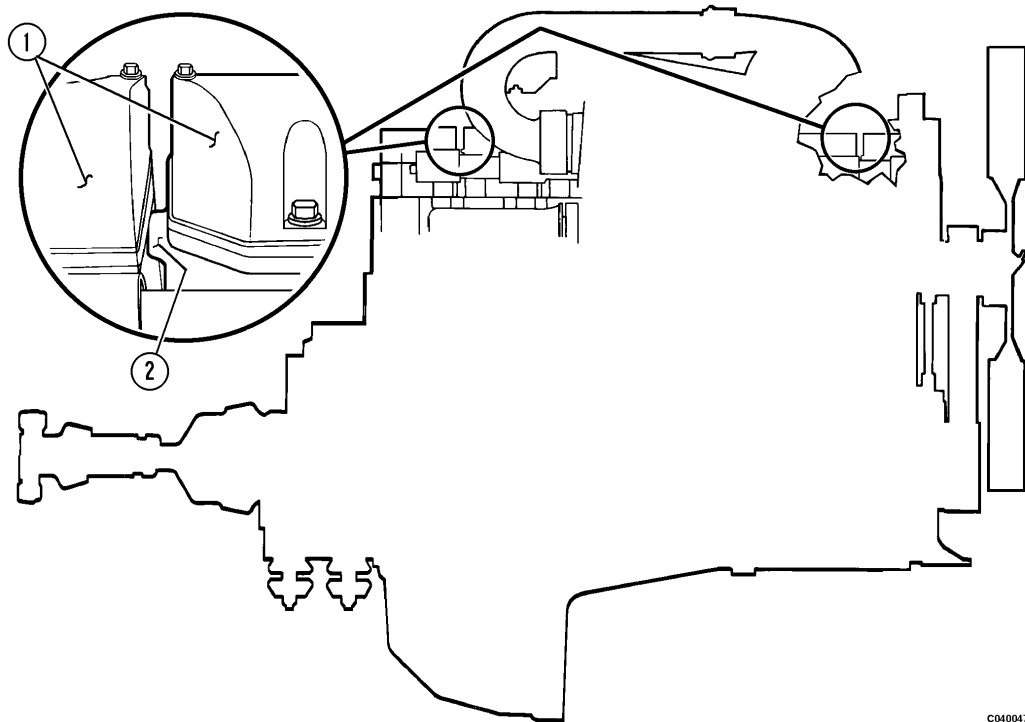

FIGURE 4-4. ENGINE LIFTING POINTS
13. Place engine lifting device between cylinder heads, one on each end of engine, under protruding cast portion (2, Figure 4-4). Take up slack.
4. Place engine device between cylinder heads, one on each end of engine, under protruding cast portion. Refer to Figure 4-4. Take up slack.